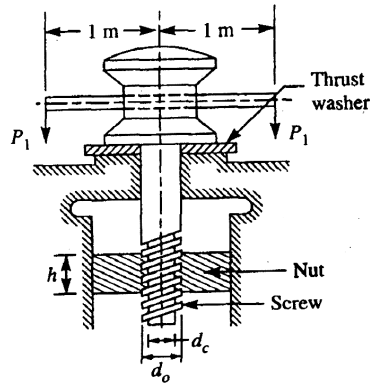

Fig.Q 8
8. A sluice gate weighing 18 kN is raised and lowered by means of square threaded screw as shown in Fig Q.8. The frictional resistance induced by water pressure against the gate is 4000 N. The outside diameter of the screw is 60 mm and pitch is 10 mm. The outside and inside diameters of washer are 150 mm and 50 mm respectively. The coefficient of friction between screw and nut is 0.1 and for the washer is 0.12. Determine; 20